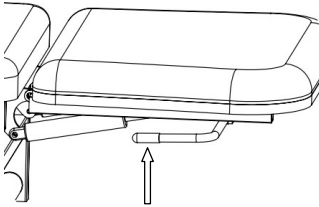

Figure 7
- When the desired angle is reached, release the control lever to be parallel to the chair surface and the chair surface angle will be locked. (Figure 7)
As shown in Figure below, turn the control lever (in the direction indicated by the arrow) to adjust the tail section; when adjusted to the desired angle, release the control lever (Figure 7).